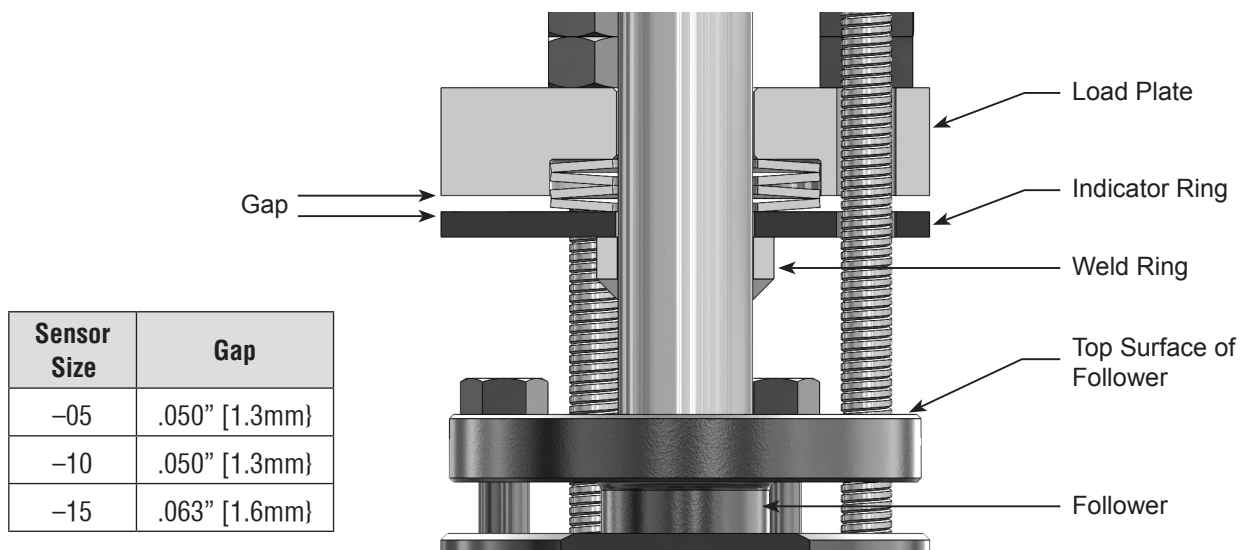

Figure 6. Proper Spring Compression
- Place the three lock washers and the three load nuts on the studs and tighten. Tighten the load nuts until the load plate is 0.050" (1.3mm) from the indicator ring for –05 and –10 sensors. For –15 sensors, the load plate should be 0.063" (1.6mm) from the indicator ring (Figure 6). For –05 sensors, this can be done by tightening all the load nuts until the load plate just touches the indicator ring and then backing off all the load nuts one complete turn. For –10 and –15 sensors, this can be done by tightening all the load nuts until the load plate just touches the indicator ring and then backing off all the load nuts 3/4 of a turn. The load springs are now properly set.
- Note: The weld on the weld ring (Figure 6) should not contact the top surface of the follower. If the weld on the weld ring comes into contact with the follower, the sensor will not be properly bottomed in the pipe. If this occurs, consult the factory before proceeding.